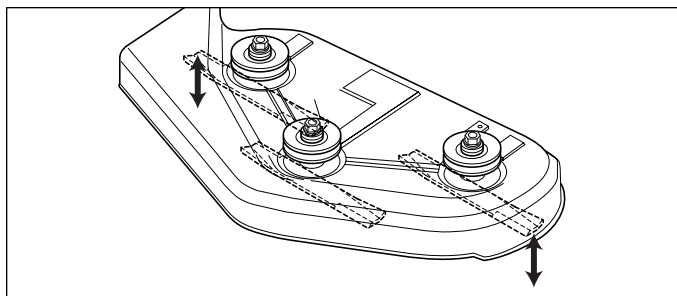
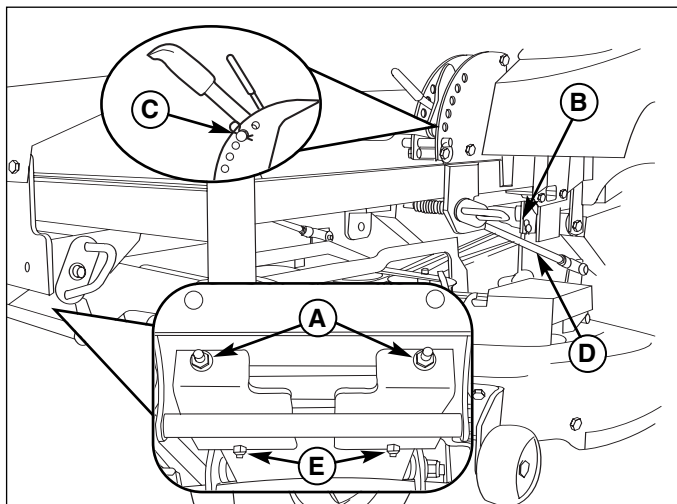

Figure 27. Orient Blades Side-to-Side
Figure 29. Mower Leveling
3. Place the mower cutting height pin in the 4th hole from the bottom (see insert, Figure 29). Arrange the outside mower blades so that they are pointing from side-to-side (Figure 27).
4. Measure the distance between the outside tips of each blade and the ground (Figures 27 & 28). If there is more than 1/8" (3mm) difference between the measurements on each side, proceed to step 5. If the difference is 1/8" (3mm) or less, proceed to step 6.
5. Use the rear leveling links (B, Figure 29) to adjust the side-to-side leveling of the deck. Repeat step 4 if necessary.
8. Check the length of the hanging rods. The rear (D, Figure 29) should be 15" (38,1cm) and is not adjusted. To adjust the pitch of the mower deck, adjust the front leveling nuts only.
9. Loosen the front lock nuts (E, Figure 29).
10. Turn the leveling nuts (A, Figure 29) counter-clockwise to lower the front of mower deck. Turn the nuts clockwise to raise the front of the mower. Make adjustments in small increments, trying to keep tension on both leveling nuts.
11. Tighten the front lock nuts (E).